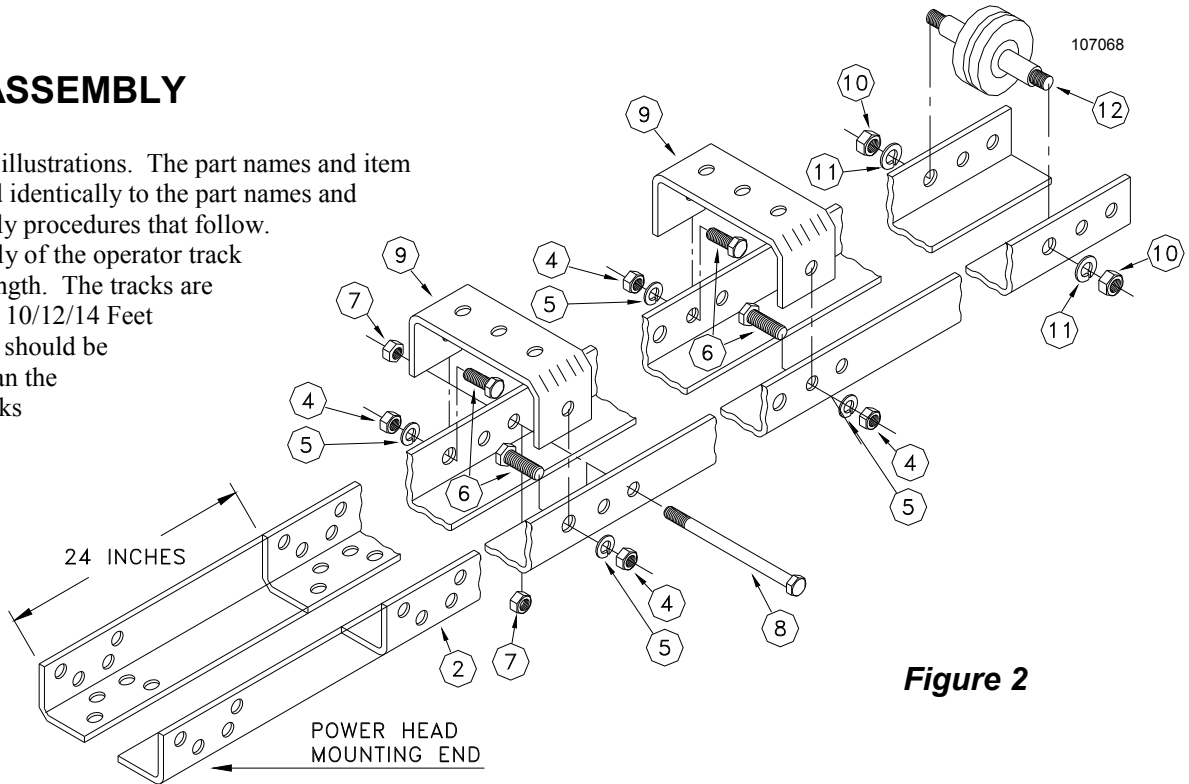

Figure 2
Before starting assembly of the operator track check for the proper length. The tracks are supplied for 8 Feet and 10/12/14 Feet high doors. The tracks should be three (3) feet longer than the door height. If the tracks supplied with the operator are more than three (3) feet longer than the door height it will be necessary to cut off two (2) feet (or 4 feet for 10 FT doors) from the power head mounting end as shown in Figure 2.
CAUTION: WHEN NECESSARY TO CUT THE TRACK ENSURE THE ENDS ARE LINED UP AS IN FIGURE 2.
- 1) Assemble the operator track by assembling the items as shown in Figure 2.